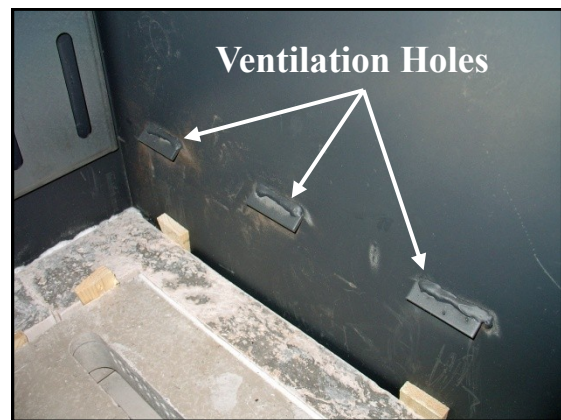

Fig. 4.11 Primary Air Ventilation Holes
3. Check the Primary Air Ventilation Holes (**Fig.4.11**) for unobstructed airflow.